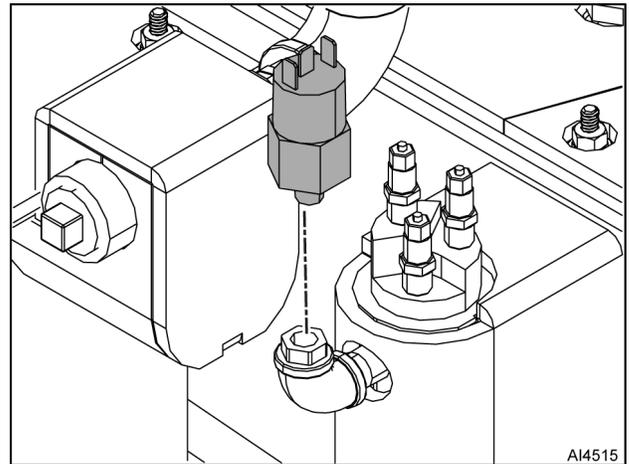

Fig. 51
5. Remove pressure switch (Fig. 51) from piping.